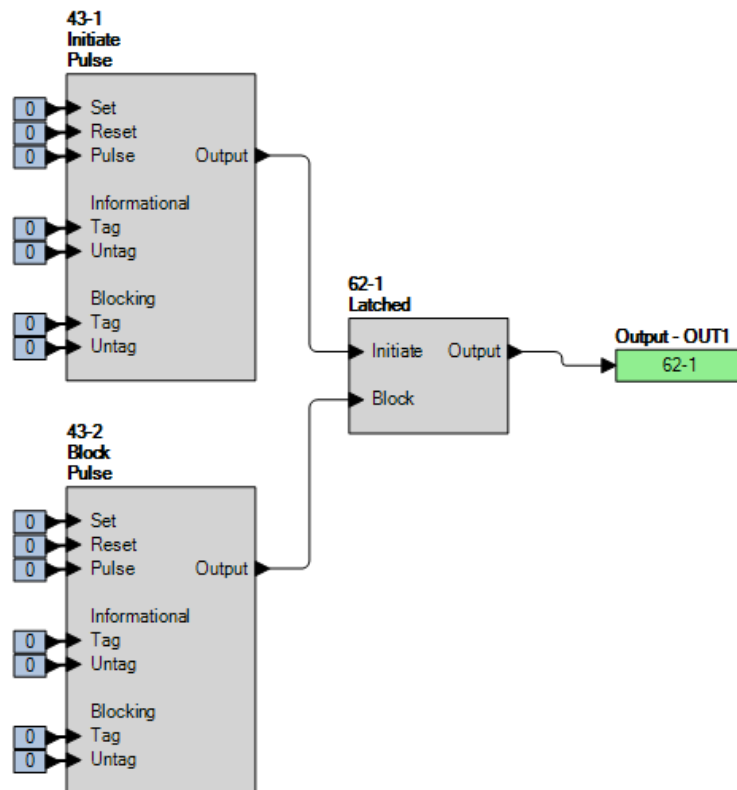

Figure 69-7. BESTlogicPlus Settings (Latched Mode)
Step 2: Use BESTCOMSPlus to configure the BESTlogicPlus programmable logic shown in Figure 69-7.